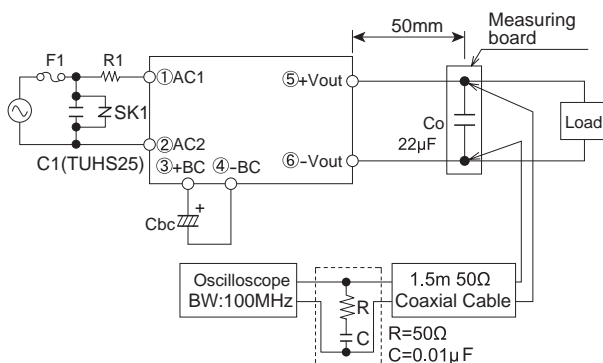

Fig.3.11 Method of Measuring Output Ripple and Ripple noise
■ The specified ripple and ripple noise are measured by the method introduced in Fig.3.11.